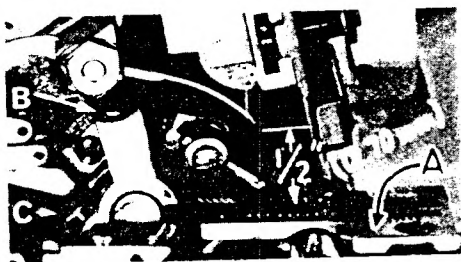

Fig. 3
With throat plate assembled in position, needle should center in the front end of needle slot. When needle is at high position, needle point should be set $\frac{1}{2}$ inch (12.70 mm) above throat plate (A, Fig. 3) for Varieties 695B010, 011, 016, 028, 041, 043, 050, and 052; $\frac{15}{32}$ inch (11.91 mm) for Varieties 695B-042 and 054. To align needle or set the height above the throat plate, move needle driving arm (B, Fig. 3) by loosening clamp screw (C). After needle has been set properly, tighten screw (C) and remove throat plate.